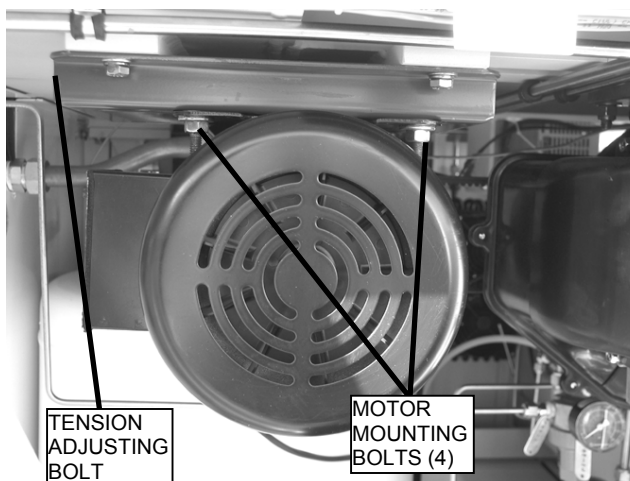

Figure 10. Scroll Compressor Motor Mount.
- c. Loosen the four (4) motor mounting bolts sufficiently to allow the motor to be moved with the tension adjusting bolt (see Figure 10).
- Loosen the four (4) motor mounting bolts sufficiently to allow the motor to be moved with the tension adjusting bolt (see Figure 10).